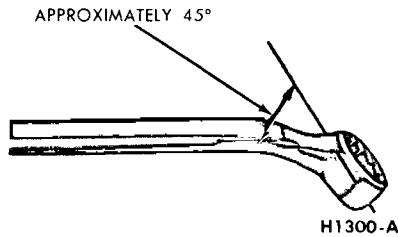

FIG. 9— Wrench for Bleeding Brake Hydraulic System
2. To bleed the secondary (rear) brake system, position a suitable 3/8 inch box wrench (Fig. 9) on the bleeder fitting on the brake wheel cylinder. Attach a rubber drain tube to the bleeder fitting. The end of the tube should fit snugly around the bleeder fitting.
4. If the rear wheel cylinders and the secondary brake system is to be bled, position a 3/8 inch box wrench (Fig. 9) on the bleeder fitting on the right rear brake wheel cylinder. Attach a bleeder tube to the bleeder fitting. The end of the tube should fit snugly around the bleeder fitting.